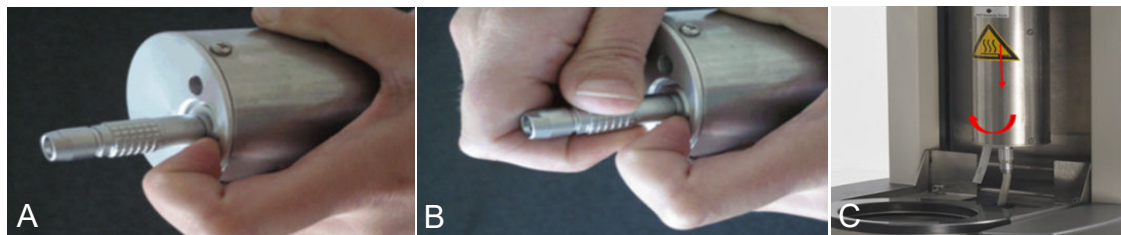

Figure 12 (A) Apply pressure to connection ring. (B) Disconnect the connector. (C) Remove assembly.
17. Empty the humidifier unless the Vitrobot™ is to be used again within 24 hours. Disconnect the electrical cable from the humidifier by pressing on the ring near the cable and pulling down the cable connector (Fig. 12).